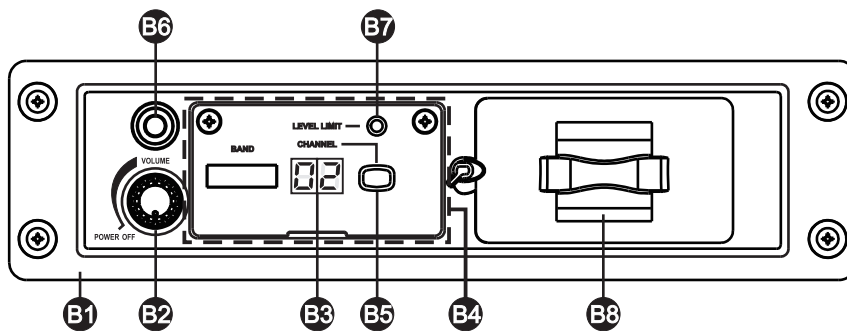

Fig. 14
(A) MTM-92 Wireless Interlinking Transmitter Part Names, Fig. 14: